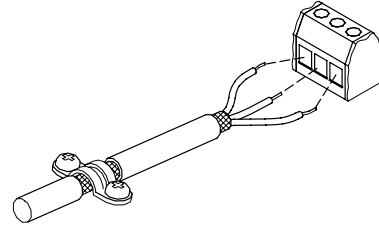

Fig. 5 Stripped cable with screen and wire connection
- The screens of the cables must be connected to frame at both ends with good frame connection. They must be as close as possible to the terminals, fig. 5.